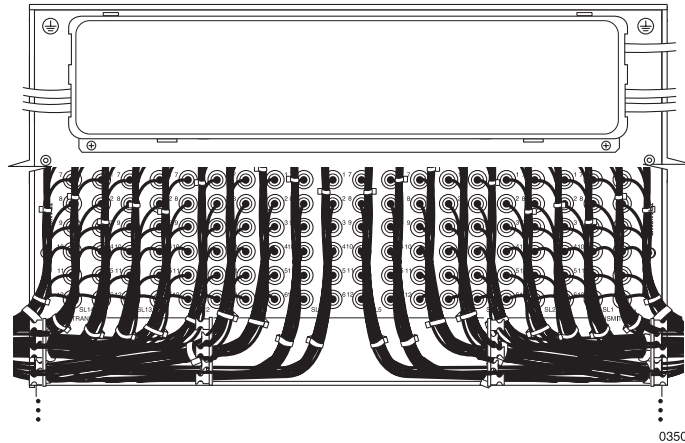

Figure 26 BNC Cable Routing at the Rear of the Chassis
2. Route the BNC cables at the rear of the chassis; see Figure 26